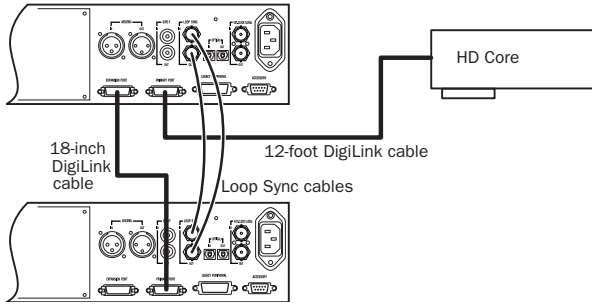

Figure 2. Two 96 I/Os, 32-channel
- 2** Connect a secondary HD-series audio interface to the Expansion port on the primary audio interface using the 18-inch DigiLink cable (included with the audio interface). See Figure 2 on page 11.